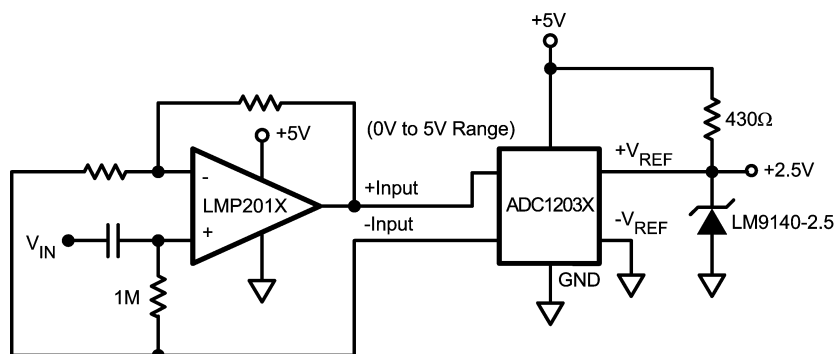

FIGURE 7.
The LMP201X is a great choice for an amplifier stage immediately before the input of an ADC (Analog-to-Digital Converter), whether AC or DC coupled. See *Figure 7* and *Figure 8*. This is because of the following important characteristics:
- E) Rail-to-Rail output swing maximizes the ADC dynamic range in 5-Volt single-supply converter applications. Below are some typical block diagrams showing the LMP201X used as an ADC amplifier (*Figure 7* and *Figure 8*).